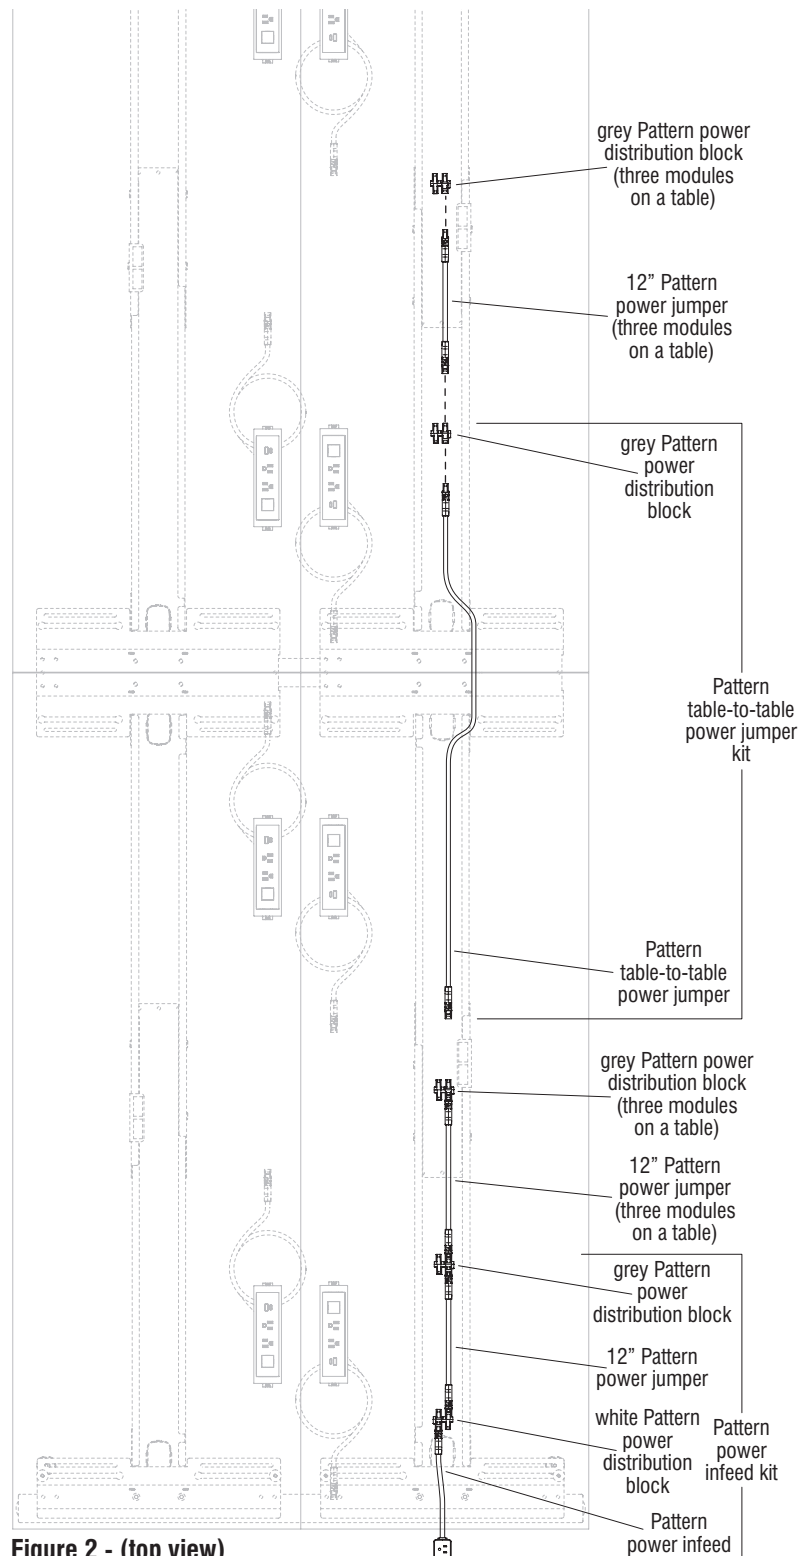

Figure 2 - (top view)
1. Take a Pattern table-to-table power jumper in hand and plug the jumper's male connector end into a grey Pattern power distribution block as shown in Detail B on page 67 and Figure 2 this page. Orient the table-to-table power jumper's female connector end out of the side cutout on the beam and toward the previous table's side cutout on the beam, in the direction of the table with the Pattern table-to-table power jumper kit (Figure 2 & page 67, Detail B).
2. Step 1 above assembles the Pattern table-to-table power jumper kit (Figure 2). If the table being assembled will have three power modules, an additional 12" power jumper and grey power distribution block must be added after the Pattern table-to-table kit (Figure 2 & page 67, Detail B).